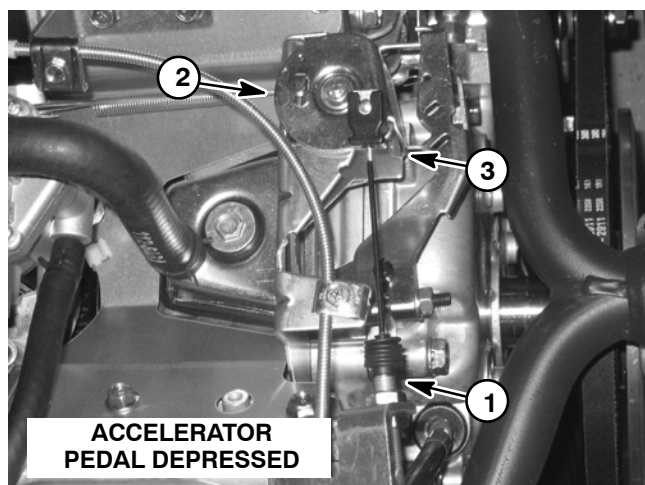

Figure 2
3. When the accelerator pedal is fully depressed the engine governor bellcrank mechanism should have a gap from 0.030" to 0.080" (0.8 to 2.0 mm) (Fig. 2). If necessary, adjust jam nuts on accelerator cable so that gap is correct.